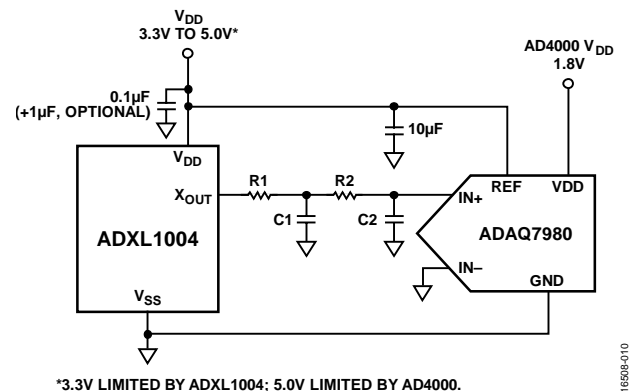

Figure 23. Application Circuit for the ADXL1004
See Figure 23 for an example of the interface, including components when measuring mechanical vibration from 0 kHz to 5 kHz. For a 5 kHz pass band, a single-pole resistor capacitor (RC) filter is acceptable; however, in some applications, use of a more aggressive filter and lower sample ADC sample rate is possible. The following components are recommended to form a 5 kHz low-pass RC filter at the output of the ADXL1004 when interfacing to an ADC, such as the ADAQ7980: $R1 = 91\text{ k}\Omega$, $C1 = 330\text{ pF}$, $R2 = 0\text{ }\Omega$, and $C2 = \text{not required}$. A minimum ADC sample rate of 16 kHz is recommended to avoid aliasing. When using sampling rates less than the resonance frequency (typically 45 kHz), be aware and account for the effective gain at the output of the sensor due to the resonance to ensure out of band signals are properly attenuated and do not alias in band.
See Figure 23 for an example of the interface, including components when measuring mechanical vibration from 0 kHz to 10 kHz. The following components are recommended to form a two-pole RC filter at the output of the ADXL1004: $R1 = 500\text{ }\Omega$, $C1 = 10,000\text{ pF}$, $R2 = 1\text{ k}\Omega$, and $C2 = 10,000\text{ pF}$. A minimum ADC sample rate of 200 kHz is recommended to avoid aliasing.